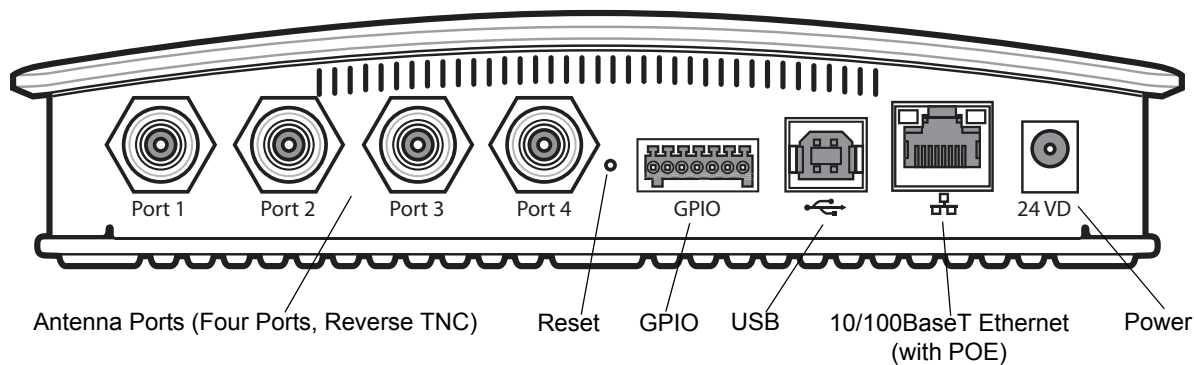

Figure 1-1 FX Series RFID Reader Rear Panel Connections
3. Connect the antenna to antenna Port 1. See Figure 1-1.
4. Connect the Ethernet cable to the Ethernet port. See Figure 1-1.
5. Connect the AC power supply to a power outlet and connect to the power port. See Figure 1-1.